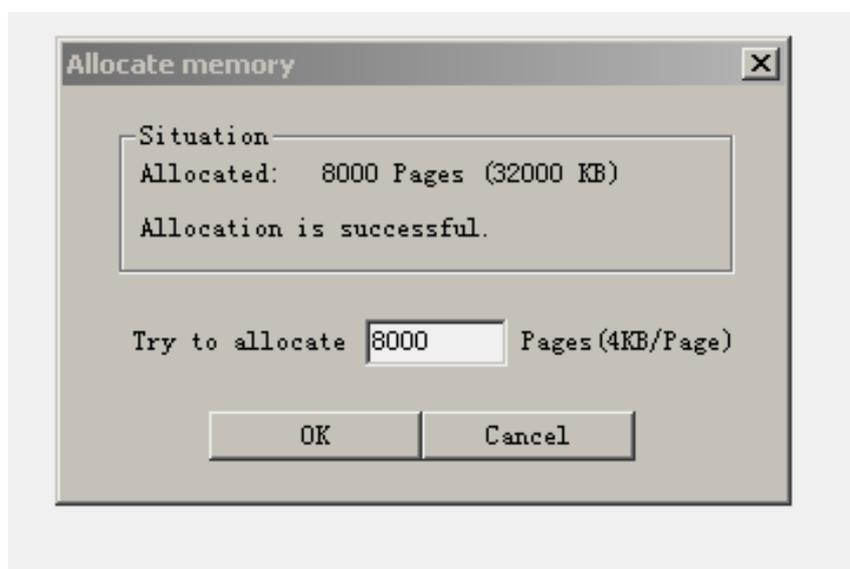

Fig. 3
3.4 Click “Start/Program/ Daheng Imavision CGCard/One card performance”, to run the demonstration program of image pickup; click “View/Capture” and observe whether the picture in the window is clear. Click “Parameter/Allocate Memory”, set the allocated internal memory in “Try to allocate” as 8000, as shown in Fig. 3.